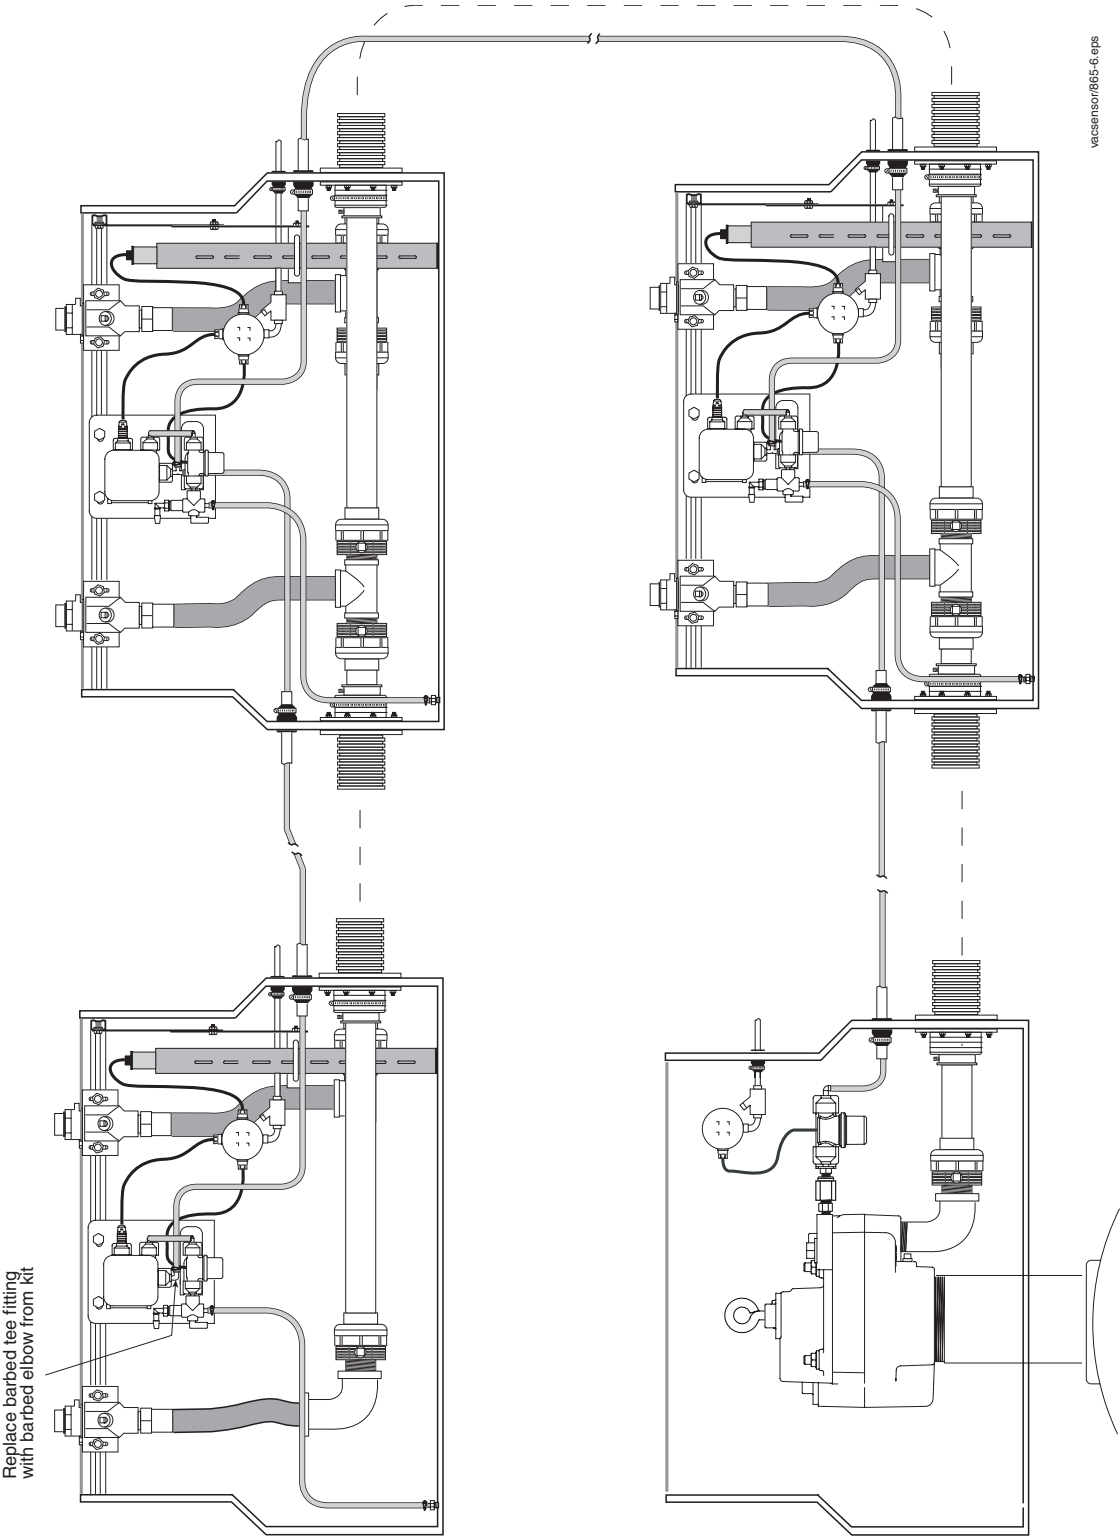

Figure 6. Example site layout diagram
6. Figure 6 diagrams an example site layout. The overall vacuum source line is not to exceed 200 feet. Contact the Veeder-Root factory for sites with longer requirements.